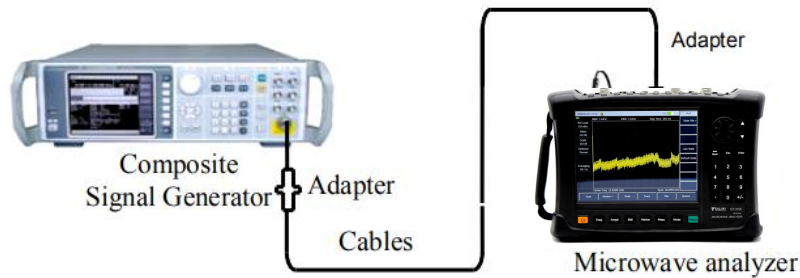

Figure 5-34 Block diagram of testing the accuracy of readout frequency
Test block diagram is shown in Figure 5-34:
- 1) Connect the RF output of the signal generator to the RF input of the microwave analyzer as connecting test equipment shown in Figure 5-34.
- 5) Calculate the error of frequency readout (Δf) by formula (1):